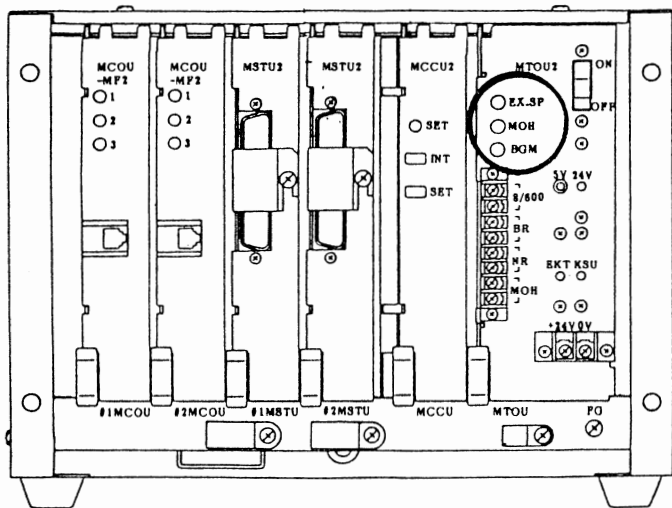

FIGURE 31
11.81 Refer to Figure 31. Adjust the volume for MOH, BGM and External Page with the following sequence.